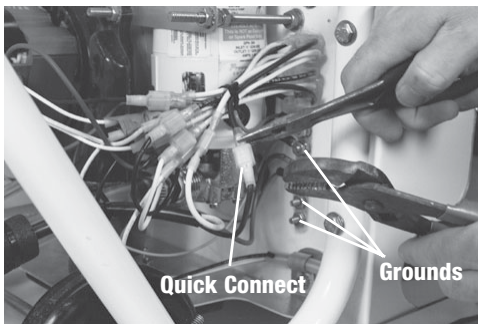

Figure 5
5. Unscrew pump's ground wire and separate pump's black and white wires at their quick-connects. You may need to use a pair of pliers or needle-nose on either side of quick-connect to separate. (Fig. 5).